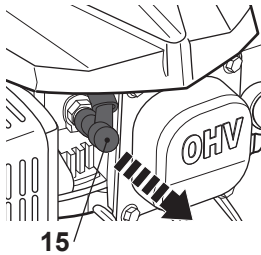

Fig. 22
1. Disconnect the spark plug connector (15) (Fig. 22).